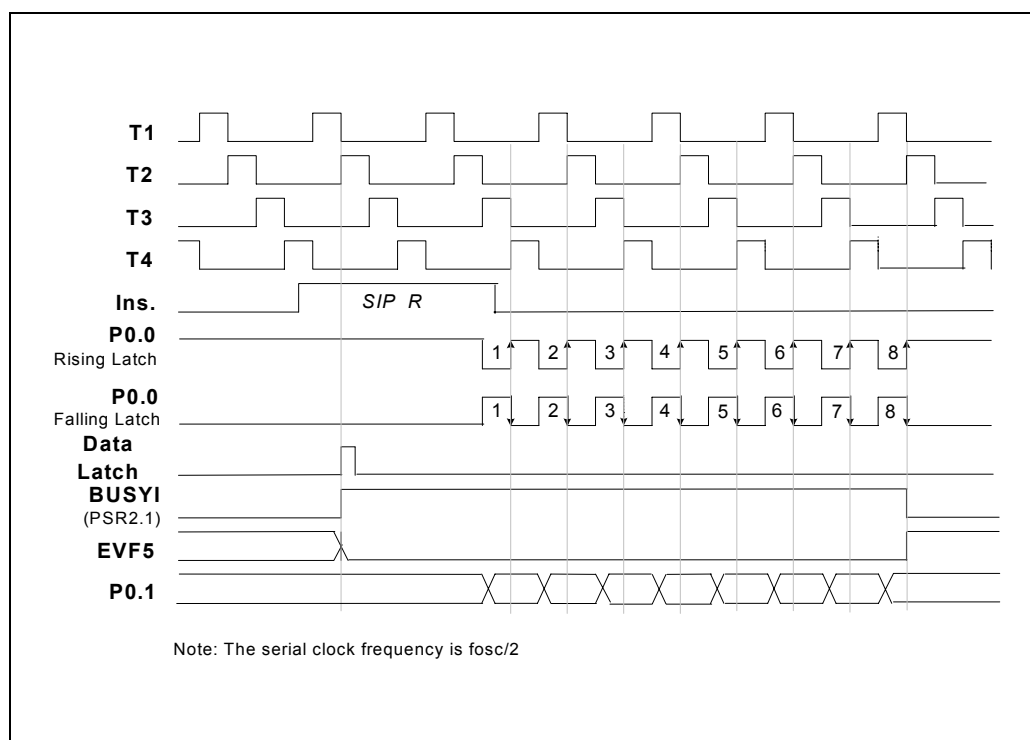

Figure 5-12. Timing of the Serial Input Function (SIP R)
- (1) **When in the first time the SIP R instruction is executed, the data will be loaded to the ACC and RAM from the serial input buffer. But this data is not meaningful, it is used to enable serial port.** There are two methods to get the serial data, one is interrupt and the other is polling. When enable the serial input, the bit 1 of port status register 2 (PRS2) will automatically be set to "1" ( $BUSY_1 = 1$ ). Then the P0.0 pin will send out 8 clocks or accept 8 clocks from external device and the data from the P0.1 pin will be loaded to SIB buffer at the rising or falling edge of the P0.0 pin. After the 8 clocks have been sent,  $BUSY_1$  will be reset to "0" and  $EVF_5$  will be set to "1." At this time, if  $IEF_5$  has been set ( $IEF_5 = 1$ ), an interrupt is executed then the SIP R instruction can get the correct data from the serial input buffer (SIB), **low nibble of SIB moves to ACC register and the high nibble moves to RAM**; if  $HEF_5$  has been set ( $HEF_5 = 1$ ), the hold state is terminated. The polling method is to check the status of PSR2.1 ( $BUSY_1$ ) to know whether the serial input process is completed or not. If a serial input process is not completed, but the SIP R instruction is executed again, the data will be lost. The timing is shown in Figure 5-12.